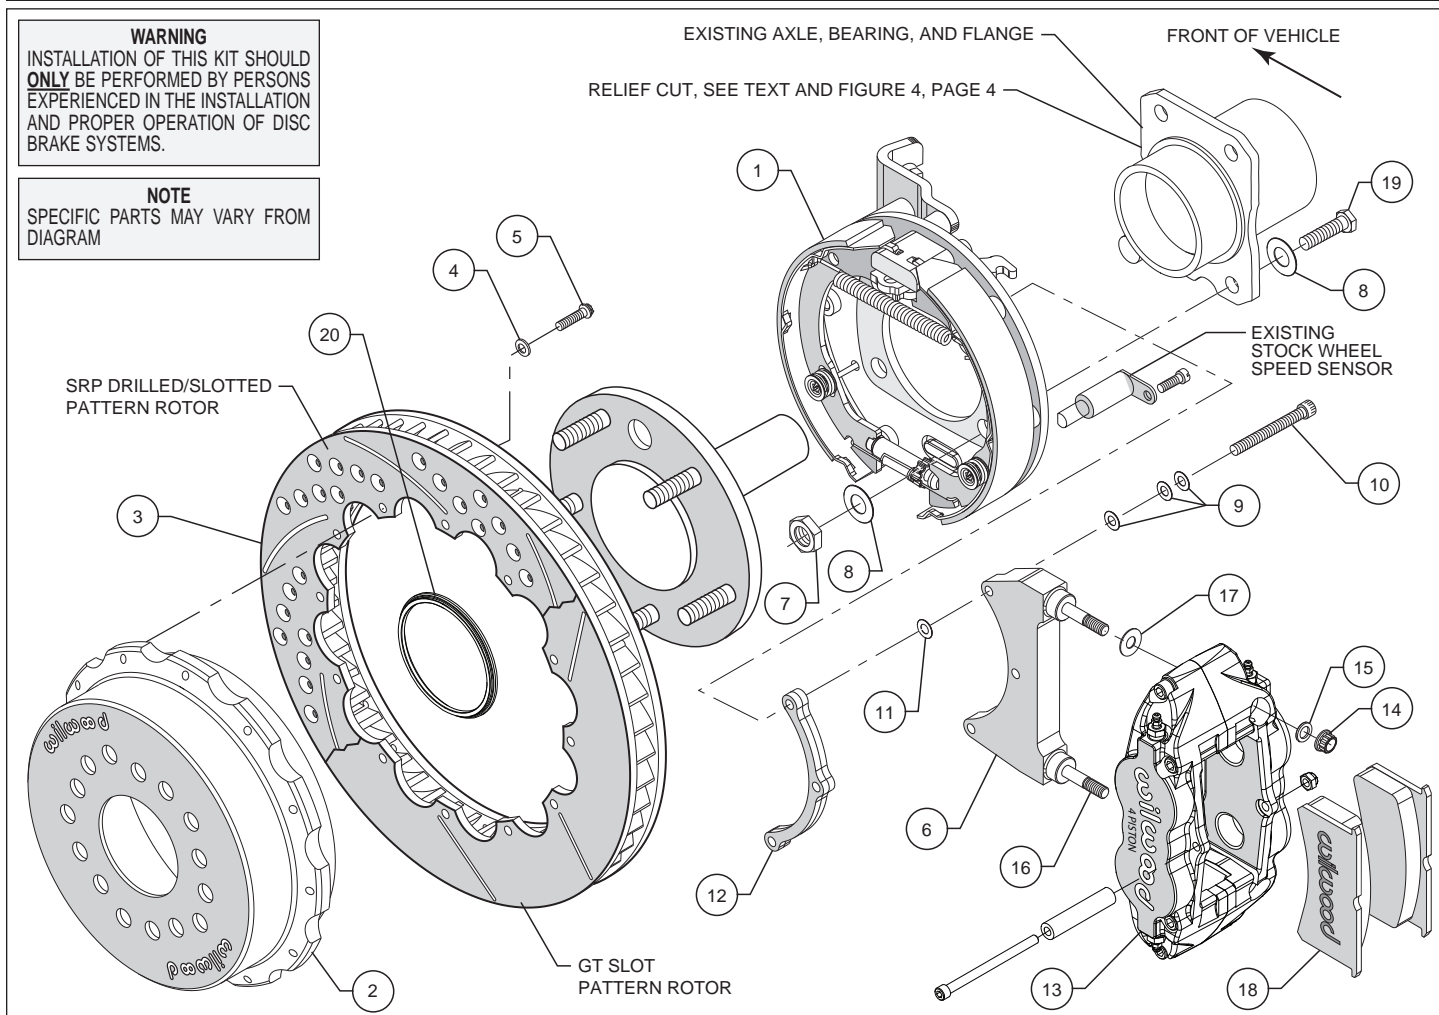

Figure 1. Typical Installation Configuration
- Slide the rotor registratikon adapter (20) onto the axle register on the axle flange with the smaller O.D. facing toward the rotor/hat (2). Align the correct hole pattern in the hat with the stud pattern on the axle flange. **NOTE:** Some OEM and aftermarket axles come with stud sizes larger than 0.50" diameter. Verify stud size and have a qualified machine shop drill the hats to the correct size, if necessary. Slide the hat/rotor assembly (2 and 3) over the wheel studs covering the bracket kit assembly (1) and against the axle flange face. Check to be sure the hat seats squarely against the hub. Install a couple of lug nuts (finger tighten) to keep the rotor/hat assembly in place while continuing with the installation.
- NOTE:** Please reference the caution statement at the beginning of the assembly instructions. The caliper mounting bracket assembly (6) should be installed first with clean, dry threads on the mounting bolts (10). Install the bracket from the rear side of the bracket kit assembly (1) by sliding bolt (10) through three flat washers (9), bracket (6), shim washer (11) and finally through the spacer (12), see Figure 1. **NOTE:** End of bolt should not exceed inside face of insert. The bracket must tighten squarely against the back side of the bracket kit assembly (1). Inspect for interference from casting irregularities, machining ridges, burrs, etc. Use one thin shim (11) between the bracket (6) and spacer (12) during initial trial fitting.
- Install one shim (17) over each pre-installed stud (16) on the radial mount bracket (6). Slide the caliper (13) in place over the studs and rotor, then install the washer (15) and lock nut (14) to hold the caliper in place. The caliper bleed screws should be pointing up. Snug the lock nuts (14) and check that the rotor (3) is centered in the caliper (13). Add or subtract .015" shims (11) as necessary between the caliper mounting bracket (6) and the spacer (12) to center the caliper (13).
- Remove the caliper center bridge pad retainer bolt, nut, and tube from the caliper. Slide the brake pads (18) into place. They should install easily without interference. Check that the outside radius of the brake pad is aligned with the outside radius of the rotor. Add or subtract shims (17) between the caliper (13) and mount bracket (6) to gain the proper alignment. Reinstall the center bridge pad retainer tube, bolt, and locknut. The locknut should be snug without play in the bolt or tube. Be cautious not to over tighten.
- Adjust the parking brake shoes outward (using a drum shoe adjustment tool available at your local auto parts store) while turning the hat (2) until a slight drag is felt against the hat/drum. Remove the lug nuts that were holding the hat/rotor in place. Install the wheel and lug nuts. Check to see that the wheel rotates freely without interference.
- Once all clearances have been checked, remove the wheel, caliper, hat/rotor from the bracket kit assembly (1). Secure the caliper mounting bracket (6) to the bracket kit assembly (1) using red *Loctite*® 271. Torque bolts (10) to 180 **in-lb**. Reinstall the hat/rotor assembly and again use lug nuts to hold it in place. Lubricate caliper mounting studs and nuts with lightweight oil, reinstall the caliper, torque the caliper nuts (14) to 30 ft-lb.
- NOTE:** Clevis and cable kits which attach to the parking brake assembly are not included in the Wilwood parking brake kit. Wilwood offers a parking brake cable kit, P/N 330-11221 for 2005-2010 and P/N 330-12335 for 2011-present which can be ordered separately from your local Wilwood dealer or by calling Wilwood customer service at (805) 388-1188.